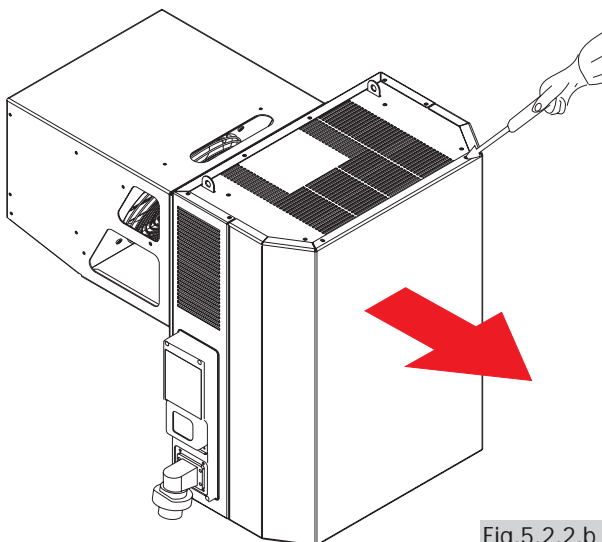

Fig.5.2.2.b
B) REMOVE the front panel by taking out the screws that fix it to the monobloc body (Fig. 5.2.2.b)
C) PROCEED to clean the condenser using a jet of air to blow from the inside to the outside (Fig. 5.2.2.c)